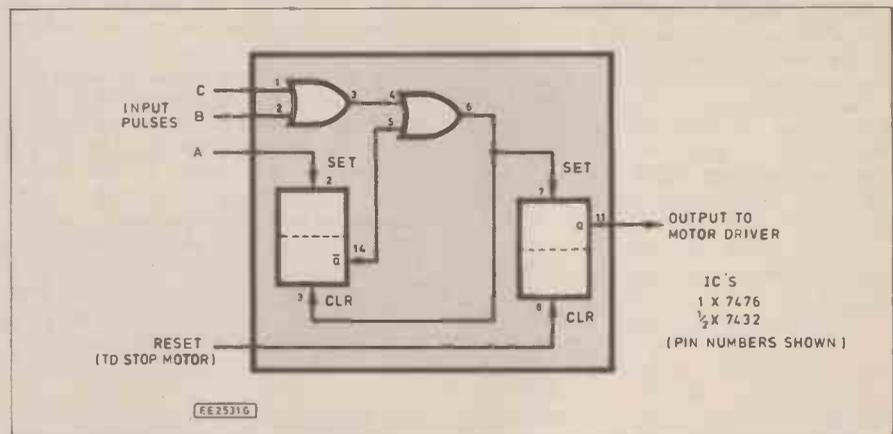

Fig. 6.7. Suggested logic system for motor exercise. It may be preferable to use reset signal to clear both bistables. (Remember power supply links to i.c.s.)
**T** That sounds like something we should add to our specification, doesn't it? Right, we'll have a fourth one. Can you try filling in the box, now? I'll add my version, and we can compare them (Fig. 6.7).